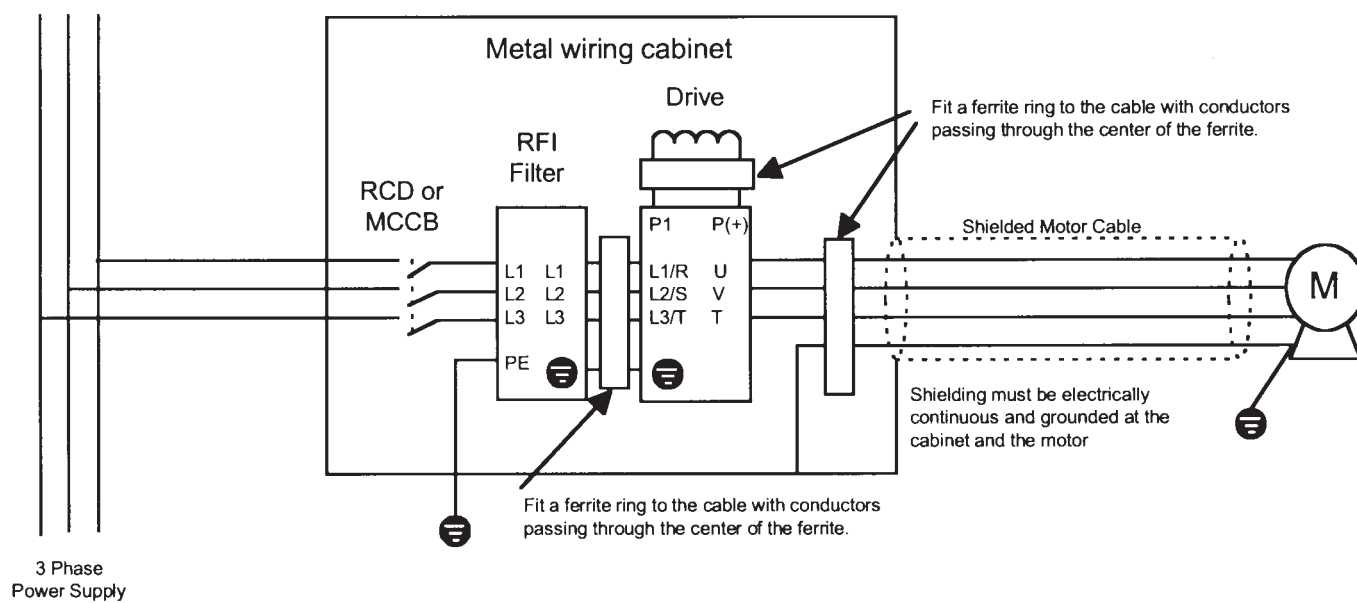

Figure 7 VG10 460V 400 Hp and higher
- 6) In the case where a ferrite ring is provided with the filter, fit the ferrite ring so the conductors pass through the center of the ferrite. Wire the cable according to Fig.6 or Fig.7 , paying attention to the applied Drive type.